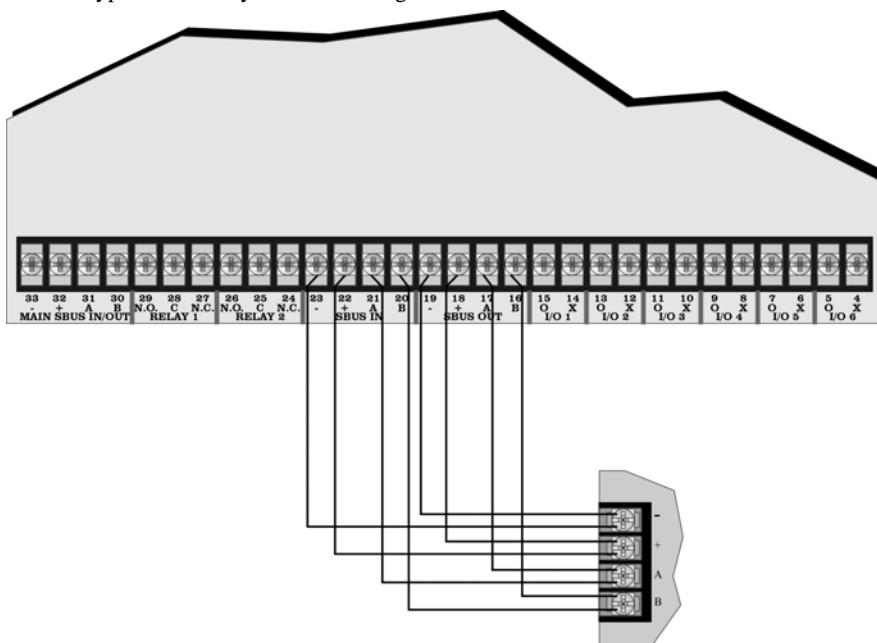
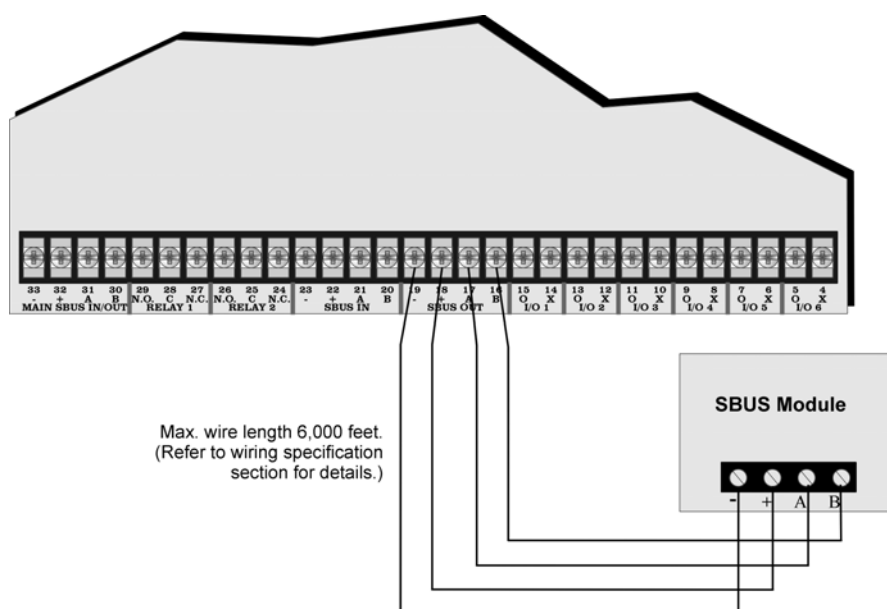

Figure 3.6 SBUS Class A Connection to RPS-1000
Figure 3.7 SBUS Class B Wiring to RPS-1000
1. Connect SBUS modules to the RPS-1000 as shown in Figure 3.6 or Figure 3.7.